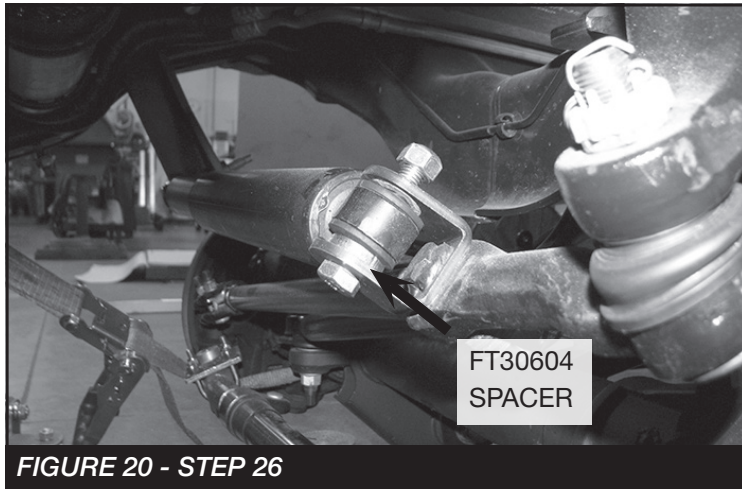

FIGURE 20 - STEP 26
26. Install FT30686 (Stabilizer Clevis) on the factory steering stabilizer using the supplied M12 hardware. **NOTE: Install FT30604 (spacer) like shown in the figure below.** Install the stabilizer using the supplied 1/2" washer and nut to the drag link. Using the factory hardware install the tapered end into the new Fabtech bracket. Torque to 127 ft-lbs. **SEE FIGURE 20**